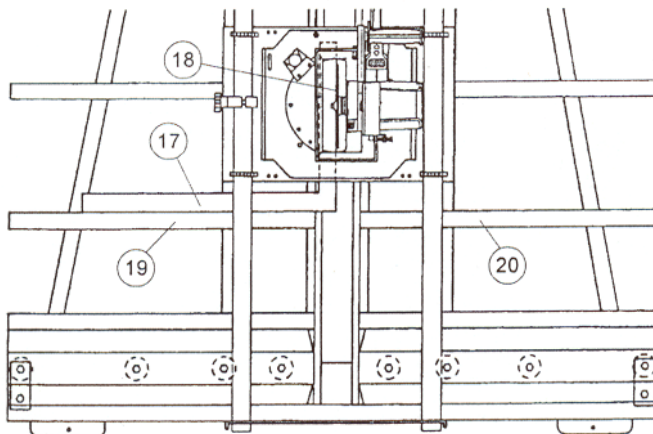

Figure 27: Adjusting the Crosscut Rulers
2. Loosen the carriage lock and lower the carriage as shown in Fig. 27.